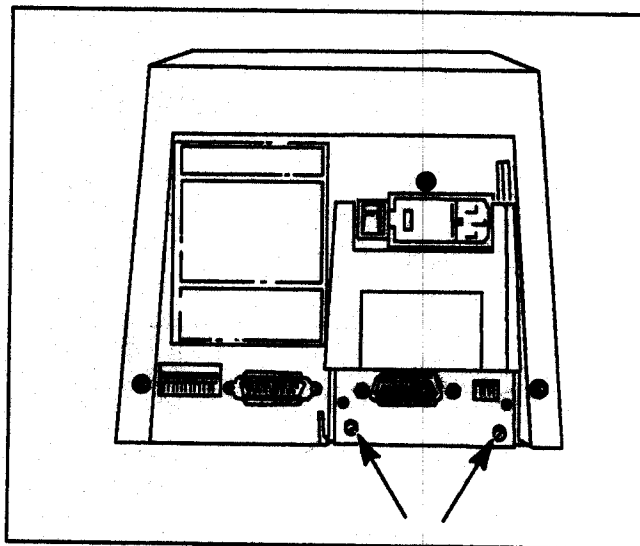

Figure 6-10. HP-IB Interface Module Removal
- b. Loosen the two module thumbscrews. See Figure 6-10.